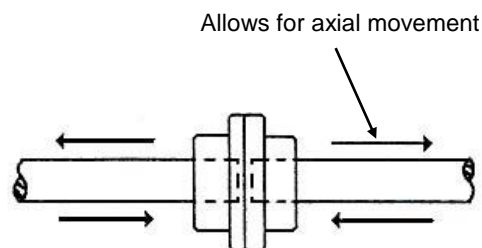

FIG 3.
- C. It allows axial or end movement of the coupled shafts. (Fig 3)